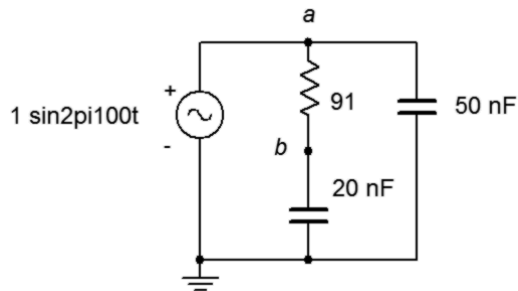

Figure 5.21
41. For the circuit of Figure 5.21, determine the Thévenin equivalent that drives the 20 nF capacitor.
42. Given the circuit of Figure 5.21, determine the Norton equivalent that drives the 20 nF capacitor.